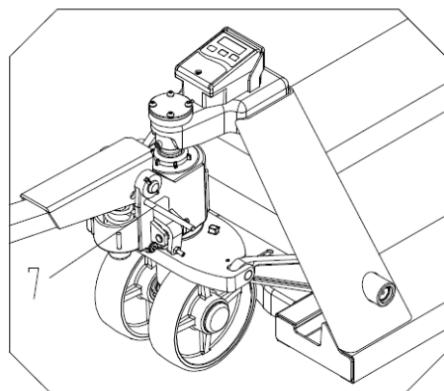

Fig. 3
6. Raise the handle to a horizontal position, pull out the pin 7 and keep it appropriately to be used for handle replacement next time. (*Fig. 3*)